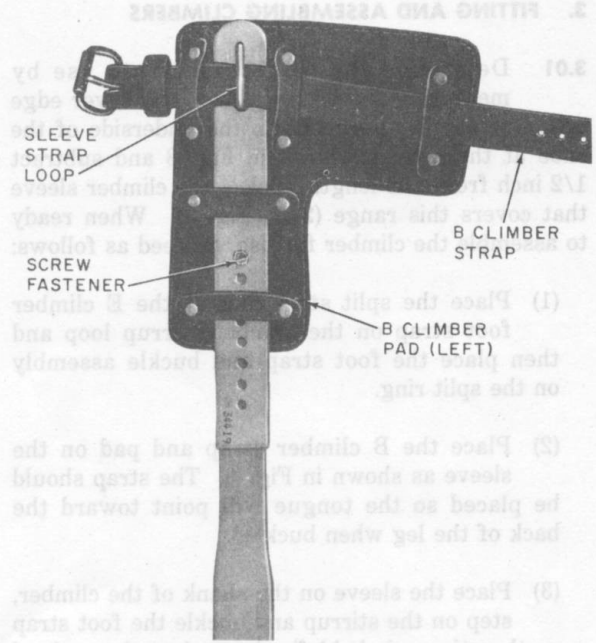

Fig. 6—B Climber Strap and Pad Installed on Climber
**2.11** The B climber strap (Fig. 6) consists of a 22- or 26-inch strap with a buckle permanently attached. The B climber strap is used to hold the pad on the leg iron and to fasten both to the workman's leg when the climber is worn.
- (1) Place the split steel ring of the E climber foot strap on the climber stirrup loop and then place the foot strap and buckle assembly on the split ring.
- (2) Place the B climber strap and pad on the sleeve as shown in Fig. 6. The strap should be placed so the tongue will point toward the back of the leg when buckled.
- (3) Place the sleeve on the shank of the climber, step on the stirrup and buckle the foot strap so the stirrup is held firmly against the arch of the shoe. Adjust the sleeve to a position that is most comfortable.
- (4) Place one of the slotted hexagon head set screws through the hole in the sleeve that is aligned with the threaded holes in the climber and tighten the setscrew to hold the sleeve in place.